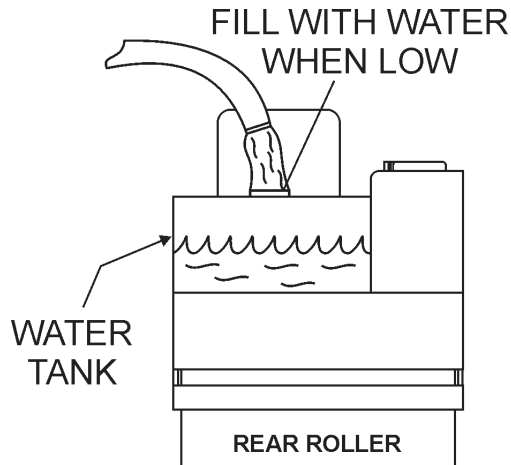

Figure 8. Water Tank Check
1. Check the water tank, located under the operator's seat, to see if filled (Figure 8). Add water if necessary. The water tank has a capacity of approximately 21 gallons (79.5 liters).